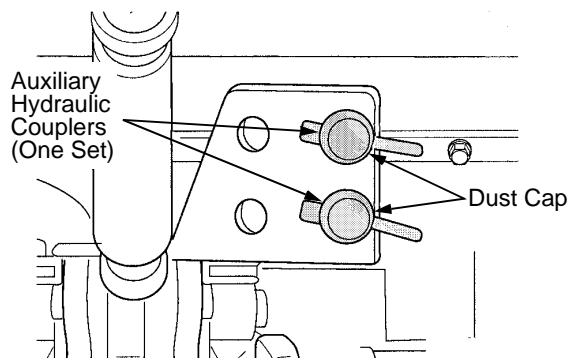

Figure 37
- Remove the dust plugs and/or caps from the couplers. See Figure 37.